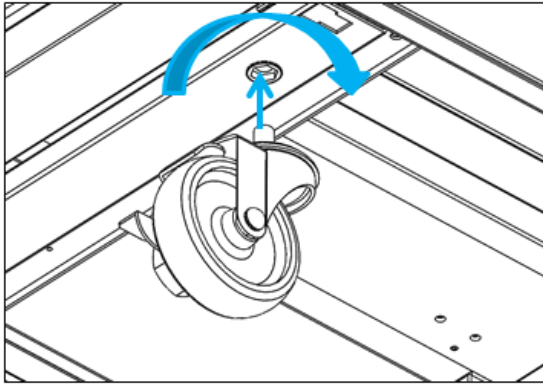

Figure 3
(1). Reach-ins (Figure3): Install casters in the bottom rails assembly on the bottom of the unit. It is important in order to achieve maximum strength and stability of the unit that you ensure that each caster is securely tightened with a 3/4" (19mm) open-ended wrench. Casters with brakes Must be installed in front, and the casters must be in contact firmly with the bottom rails of the unit.